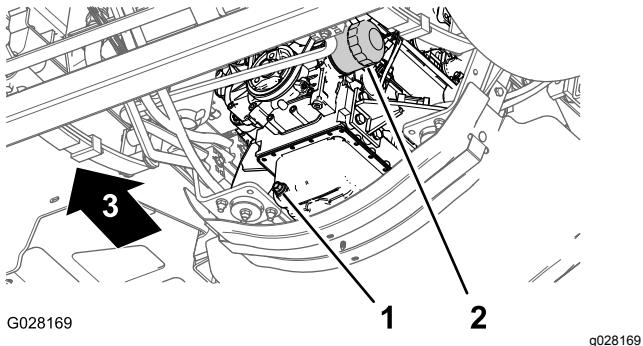

Figure 76
3. Align a drain pan under the engine oil filter (Figure 76).
4. Remove the old oil filter (Figure 76).
8. Install the oil filter to the filter adapter and turn the oil filter clockwise until the rubber gasket contacts the filter adapter, then tighten the filter an additional 1/2 turn (Figure 76).
1. Align a drain pan under the drain plug (Figure 76).
2. Remove the drain plug (Figure 76) and allow the oil to drain completely.